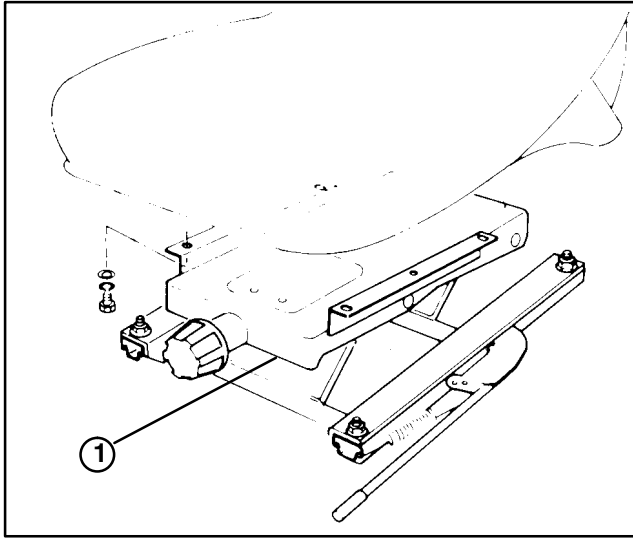

Figure 6
4. Secure seat suspension to seat mounting plate with (4) flange locknuts (Fig. 6 & 7).
5. Mount seat to seat suspension with (4) capscrews, lockwashers and flatwashers (Fig. 6 & 7).